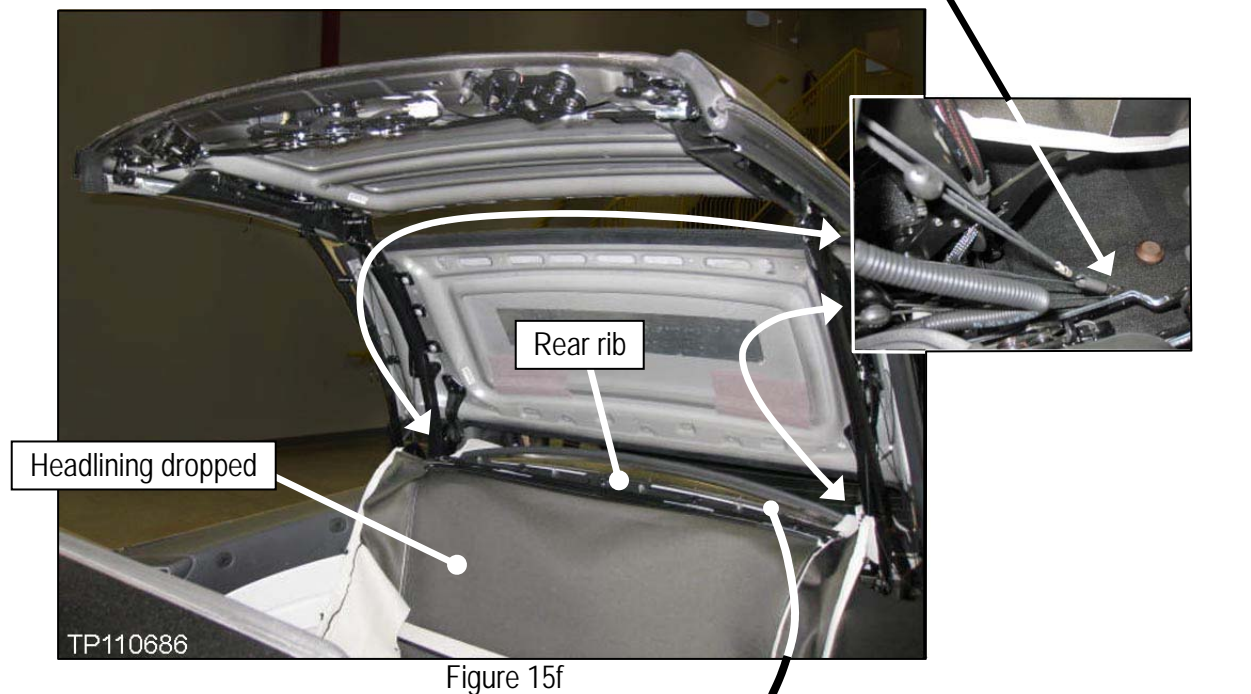

Figure 15f
16. Next, drop down the headlining and lay out on the rear back seat to access the rear rib (see Figure 15f).